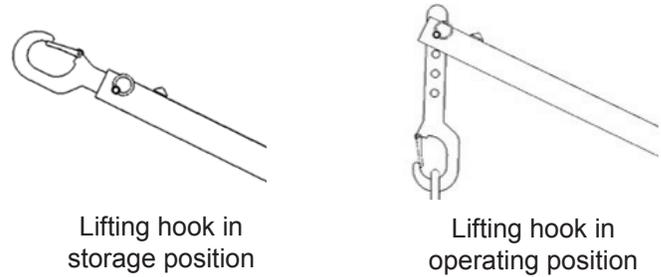

Figure 2
2. Locate the lifting hook that is pinned and stored inside the dolly end. Remove the pin and pull the hook out. Replace the hook into the slots and insert the pin through the dolly and one of the middle two holes in the hook. See Figure 2.